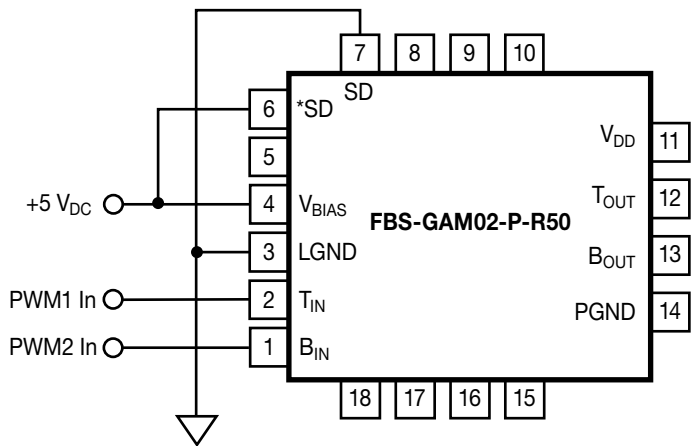

Figure 17. PG Protection Functions Disabled
The FBS-GAM02-P-R50 incorporates a Power Good (PG) sensing circuit that disables both the low- and high-side internal gate drivers when the +5 V_{DC} gate drive bias potential (V_{BIAS}) falls below an under-voltage threshold, typically 4.45 V_{DC}, or rises above a potentially-damaging V_{BIAS} over-voltage threshold level – refer to Figure 5 for the proper operational nomenclature and functionality versus the state of the V_{BIAS} power supply. During the time when the V_{BIAS} potential is outside of the pre-set threshold(s), the PG output (Pin 5) pin is logic low (“0”). Alternatively, when the V_{BIAS} potential is within the pre-set thresholds the PG pin is logic high (“1”). The logic condition of the PG pin may be sensed by a rad hard FPGA or Microcontroller/DSP in-order to determine when the power switches in the FBS-GAM02-P-R50 may be driven with a pulse-width modulated (PWM) input signal(s) at the B_{IN} and T_{IN} logic inputs. If either the under-voltage and over-voltage indication features are not required or desired, then these functions may be disabled separately by connecting the *SD (Pin 6) pin to V_{BIAS} (pin 4) for the UVLO or the SD pin (Pin 7) to LGND (pin 3) for the 0 V_{DC} indicator, as shown in Figure 17.